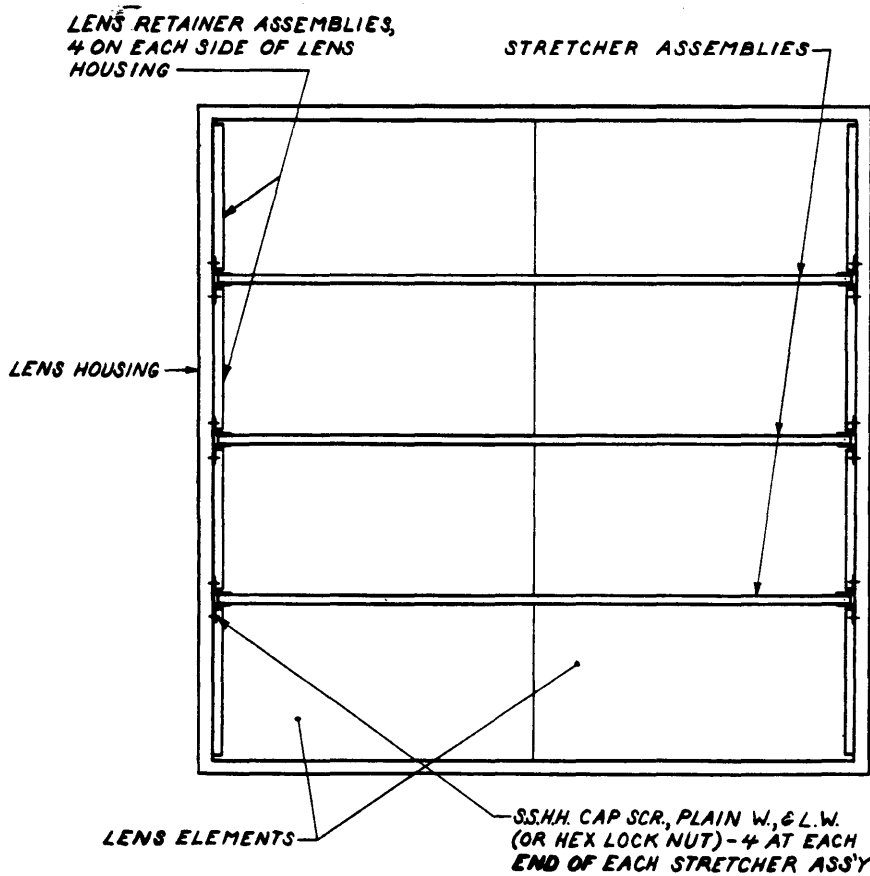

Fig. 2 - Weather Cover Supports
3.01 Remove the three 1- by 3-inch stretcher bars from the mouth of the antenna by removing the 5/16 -18 by 1-inch stainless steel HH cap screws which are equipped with plain washers and lock washers (see Fig. 2).
3.02 Remove the stainless steel HH cap screws, which are equipped with plain washers and lock washers (or self-locking nuts), that secure the lens retainer assemblies to the sides of the antenna mouth (see Fig. 2).